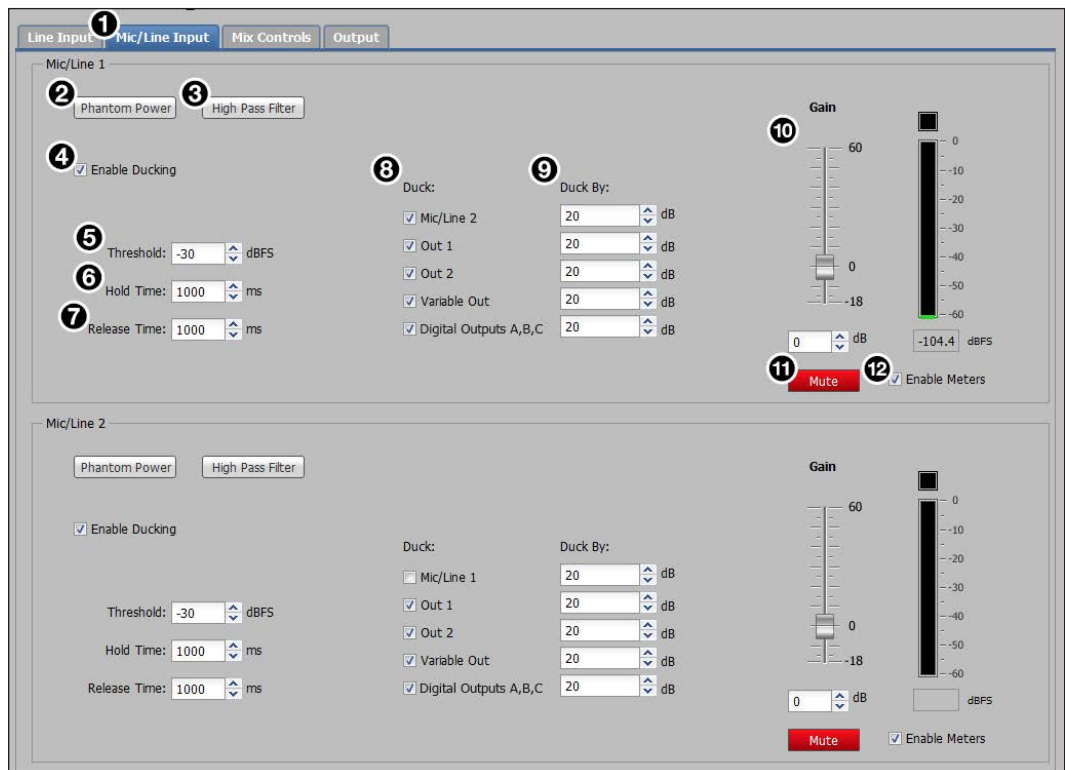

Figure 71. Mic/Line Input Tab
2. For the web pages only, select the **Enable Meters** checkbox (see figure 71, **5**).
1. Click the **Mic/Line Input** tab (see figure 71, ❶, on the previous page).
2. In the **Mic/Line** input panel for the desired microphone input, click the **Phantom Power** button (❷). The button turns blue when enabled.
1. Click the **Mic/Line Input** tab (❶).
2. Adjust the level using any of the following methods (❷):
3. To mute the mic/line gain, click the **Mute** button below the mic/line **Gain** fader (see **figure 71**, **11**, on page 101).
4. In the **Hold Time** field (see figure 71, **6**, on page 101) adjust the value by one of the following methods: